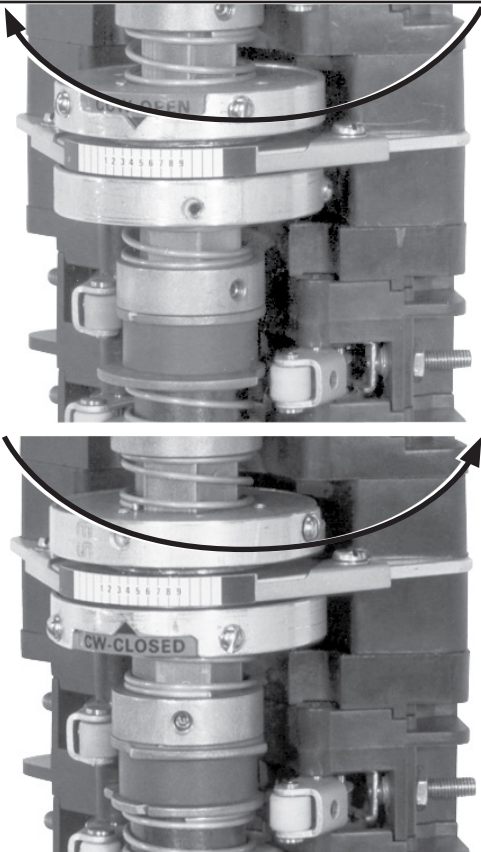

Figure 11. Adjusting the travel-limit discs for the desired “unwind” of the output shaft.
- (c) If adjustment is needed, remove the motor-circuit fuseholder. To increase the amount of “unwind,” move the opening stroke travel-limit disc (to increase travel) one indicator plate number at a time. See Figure 11 on page 21.
and operate the switch operator electrically to close the circuit-switcher. Repeat the procedure, as described in Step 4 and in Figure 11, and adjust the closing-stroke travel-limit disc one indicator plate number at a time to obtain the correct amount of overtravel in the closing direction.